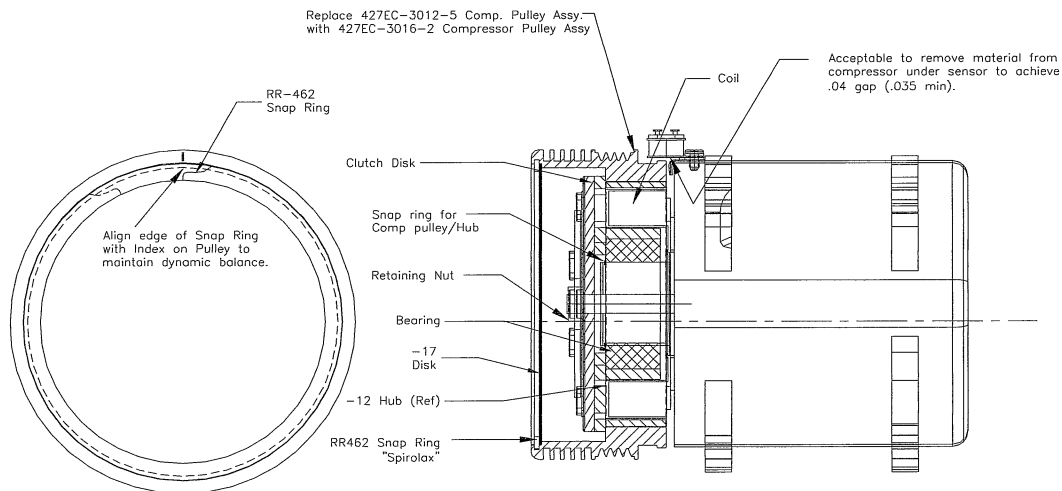

Figure 2.2
3. Install new compressor clutch armature assembly on the compressor drive shaft, hold the armature assembly stationary, reinstall the retaining nut on the compressor driveshaft, and torque nut to **180 – 200** in lbs. (See figure 2.2)
Install RR-426 Snap Ring so that the beveled edge of the ring aligns with the index mark on the outer surface of the new compressor pulley. (See figure 2.2)